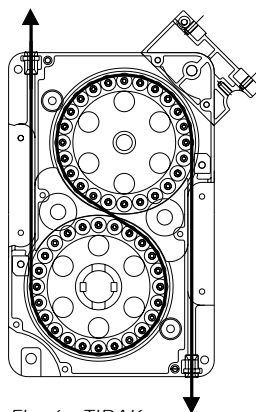

Fig. 6 - TIRAK
The lifting mechanism (13) consists of two TWIN-TIRAK model T-1000 hoists, manufactured by the TRACTEL Group and specially designed for SECALT building maintenance units. The wire rope travels in an "S" shaped path around the two adhesion pulleys (Fig. 6). The TWIN-TIRAK hoist is fitted with an overspeed safety brake which operates if the cradle descends too fast, and a disc brake, which is opened electrically as soon as the power is supplied to the motor.